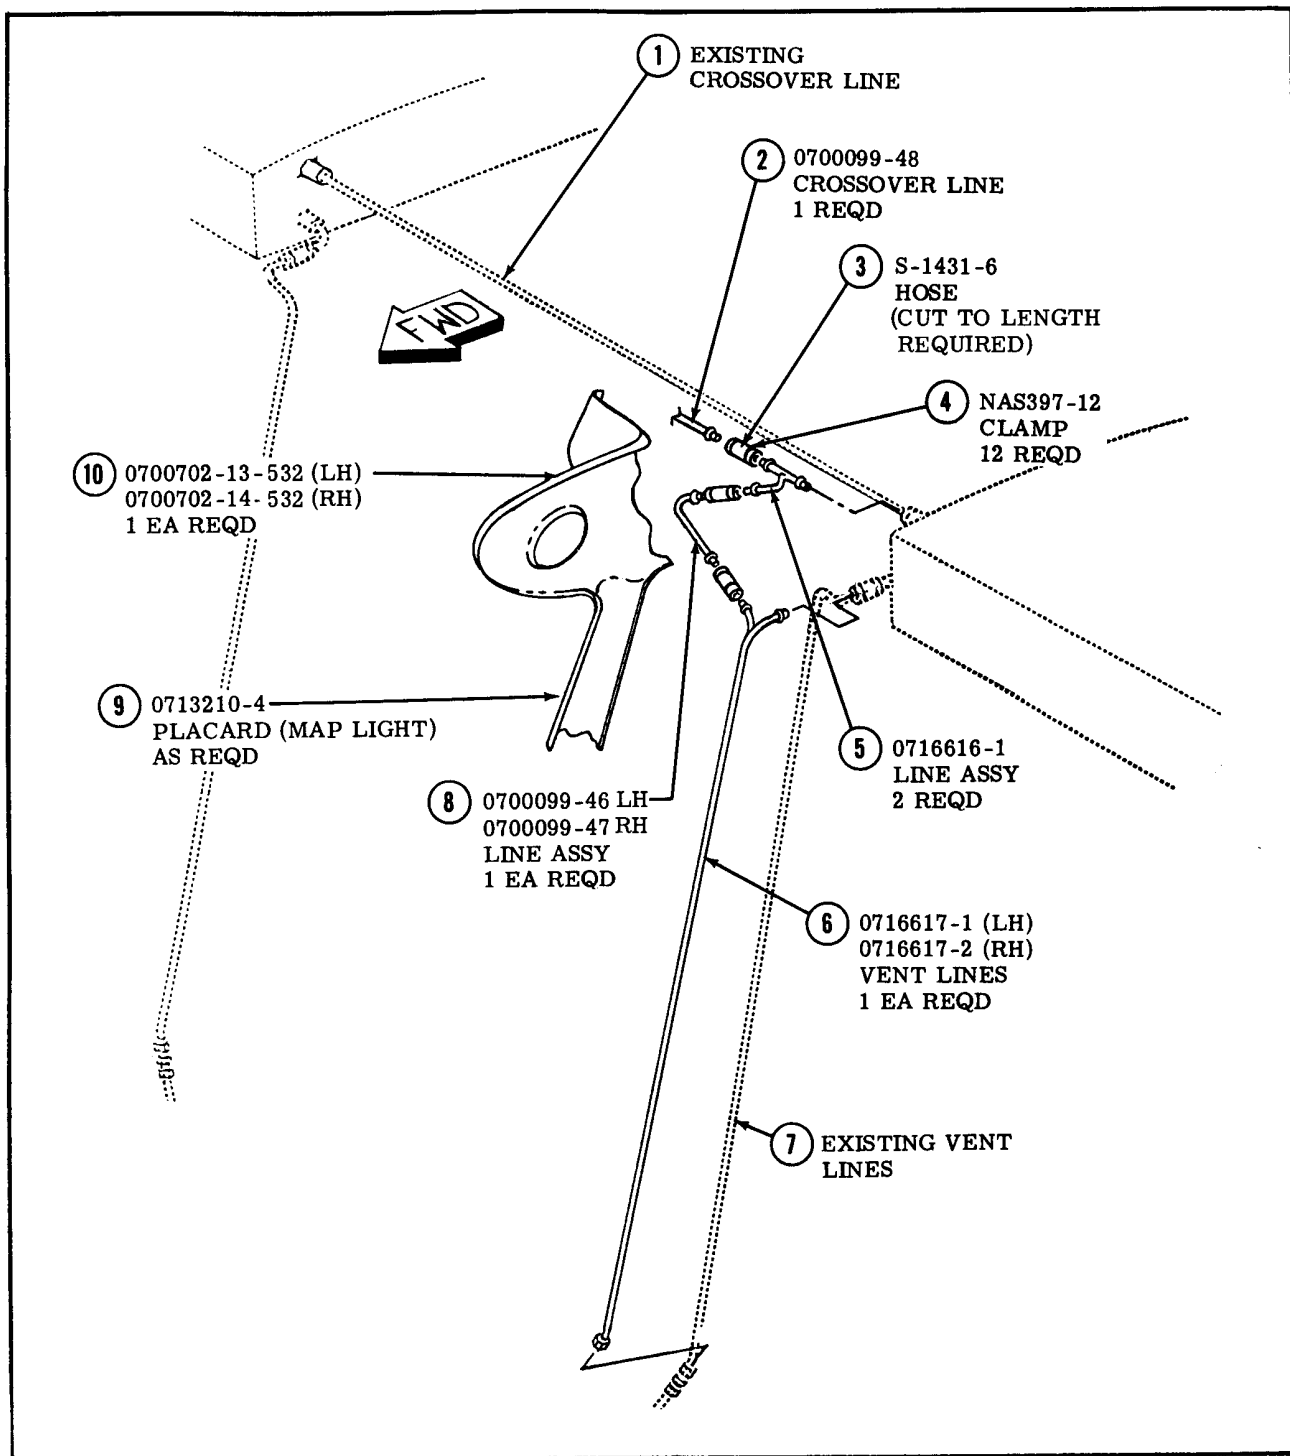

Figure 1. Fuel Lines Installation
- (1) Loosen headliner at top of windshield and cabin doors sufficiently to expose "cross over" fuel line.
- (2) Remove right and left hand front doorpost shields and loosen upholstery panels sufficiently to expose fuel lines from floorboard up to lower edges of windshield.
- (3) Remove wing root fairings.
- (4) Drain sufficient amount of fuel from tanks and lines to avoid spilling any fuel inside aircraft.
b. (Refer to figure 1.) Fuel Lines Installation.
- (1) Loosen hose clamps and remove existing "cross over" fuel line (1).
- (2) Loosen hose clamps and remove existing right and left hand front doorpost fuel vent lines (7).
- (3) Install new lines, clamps and hose as shown.
- (4) Install new doorpost shields (10). Transfer map light to new LH shield if existing in aircraft. Apply decal furnished in kit to shield for map light identification.
- (5) Refuel aircraft and check for leaks.
- (6) Reinstall all previously removed items of equipment.